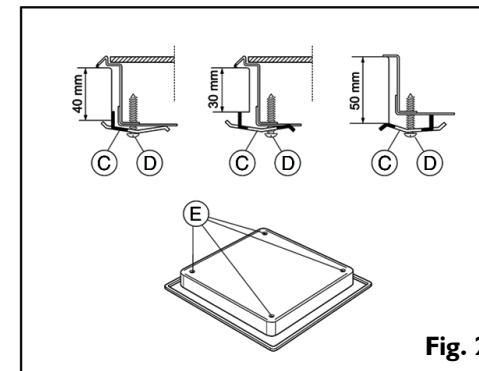

Fig. 2
**Attention:** to install the hob on other surfaces than wood (marble, plastic, ceramic, marble, stone, etc.) remember to ask After Sales Service for the fixing plates (fig. 2) Code 4819 404 78697.
- **If the worktop is made of marble, plastic, ceramic, stone, etc.,** the hob must be secured with special brackets (C) (fig. 2).
2. Place the 4 brackets (C) in position in accordance with the thickness of the worktop as shown in fig. 2.
3. Fasten the 4 screws (D) in the positions (E) (fig. 2).